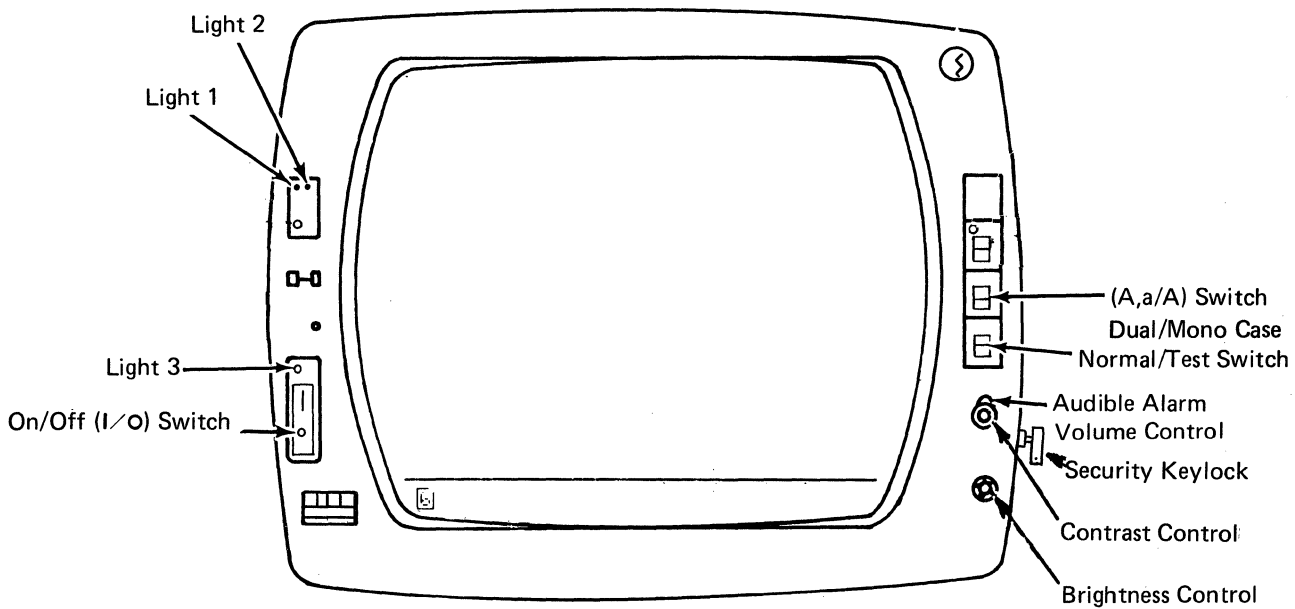

Figure 5-2. 3276 and 3278 Common Operator Controls and Lights
The On/Off (| / ○) switch is separated from the brightness and contrast controls (see Figure 5-2). This reduces the possibility of accidentally turning the display station off. To turn the 3276 on, press the top portion  of the switch. Light 3 and Light 1 should turn on when you press the On/Off switch. After a delay of a few seconds, (1) Light 2 turns on, (2) the cursor appears in the first position in line 1, (3) a horizontal line appears across the lower portion of the screen, and (4) a Ready symbol () appears in the lower-left portion of the screen in an area called the Operator Information Area.
The brightness control knob (see Figure 5-2) serves the same function and operates in the same manner as the 3275/3277 brightness control. This control also has a test position. When the control knob is turned fully clockwise beyond the first stop and held, the screen becomes very bright.
The contrast control knob (see Figure 5-2) serves the same function and operates in the same manner as the 3275/3277 contrast control.
If your display station has the Audible Alarm feature installed, the volume control  for the audible alarm is located at the outside of and behind the screen contrast control (see Figure 5-2) instead of under the machine covers. Turning this control clockwise increases the sound level; turning the control counterclockwise decreases the sound level.
When you are operating the display station, this switch is in the Normal position (see Figure 5-2).
The 3276 can display both uppercase and lowercase alphabetic characters. You can use the *A, a/A* switch (see Figure 5-2) to display (1) only uppercase alphabetic characters or (2) both uppercase and lowercase characters. To select only uppercase characters, set the switch to *A*; to select uppercase and lowercase characters, set the switch to *A, a*.